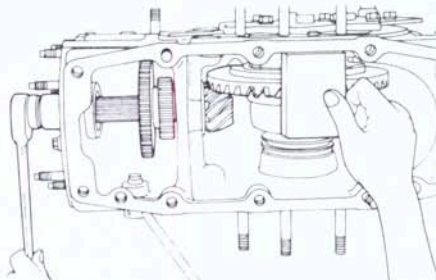
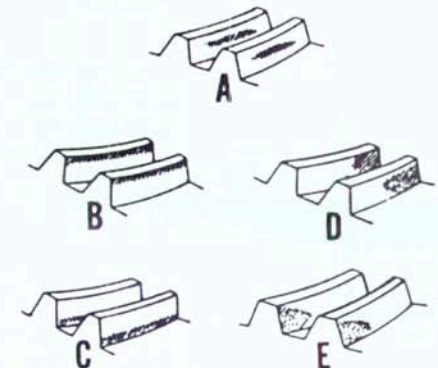

Fig. 132—To check mesh position of ring gear and pinion teeth, turn pinion shaft while applying light resistance to ring gear.
Fig. 133—Typical gear tooth mesh patterns on ring gear. Desired tooth contact is indicated in pattern "A". Refer to text for adjustment procedure.
96. MESH POSITION. To check tooth contact between bevel pinion and ring gear teeth (mesh position), apply a light coat of red lead over several ring gear teeth at three different positions around ring gear. Turn pinion shaft (Fig. 132) while applying resistance to ring gear rotation by pressing a block of wood against ring gear. Check gear tooth contact area (red lead will be wiped off) and compare with patterns shown in Fig. 133.